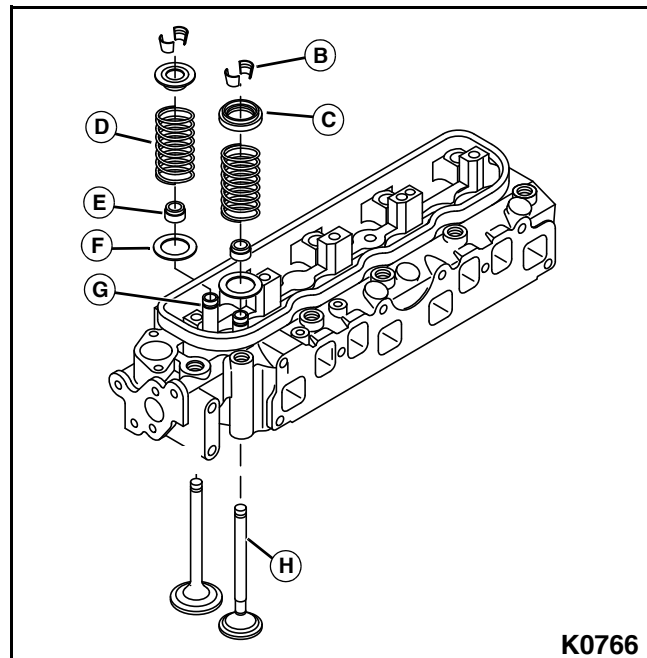

Figure 3-135: Valve Component Location
2. Compress the valve spring (D) enough to remove the spring retainer locks (B). **See Figure 3-135.**
4. Remove the tension on the valve spring and remove the spring retainer (C), the valve spring, and the valve spring seat (F).
5. Remove the valve (H).
6. Remove the valve seal (E) and discard.